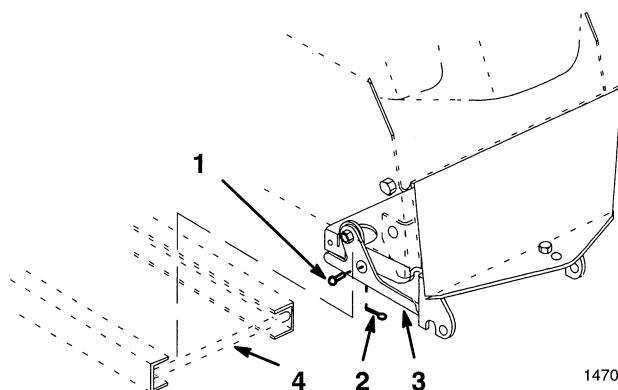

Figure 13
5. Remove hairpin cotters and clevis pins from latch levers (Fig. 13). Open latch levers and lower the frame (Fig. 13).